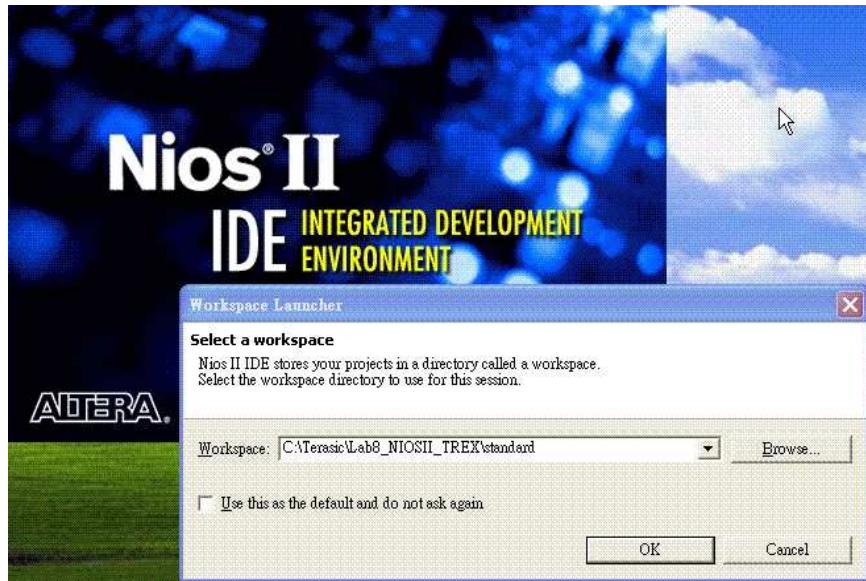

Figure 11.2. Start NIOSII IDE and open C:\Terasic\Lab8_NIOSII_TREX\standard as workspace
3. Refer to Figure 11.2, select `C:\Terasic\Lab8_NIOSII_TREX\standard` as your workspace.